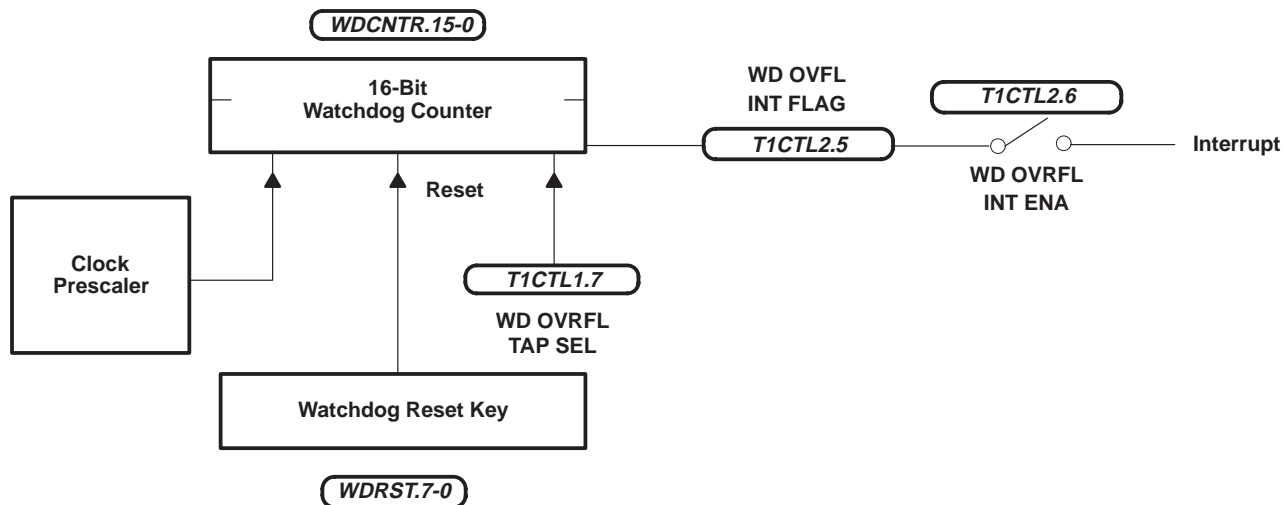

Figure 10. Simple Counter
- Simple counter configuration (see Figure 10) for mask-ROM devices only